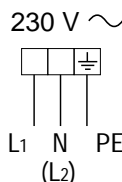

Fig. 10.2
- Connect the phase and earth cables to the terminal block "B" according to the diagram in figure 10.2.